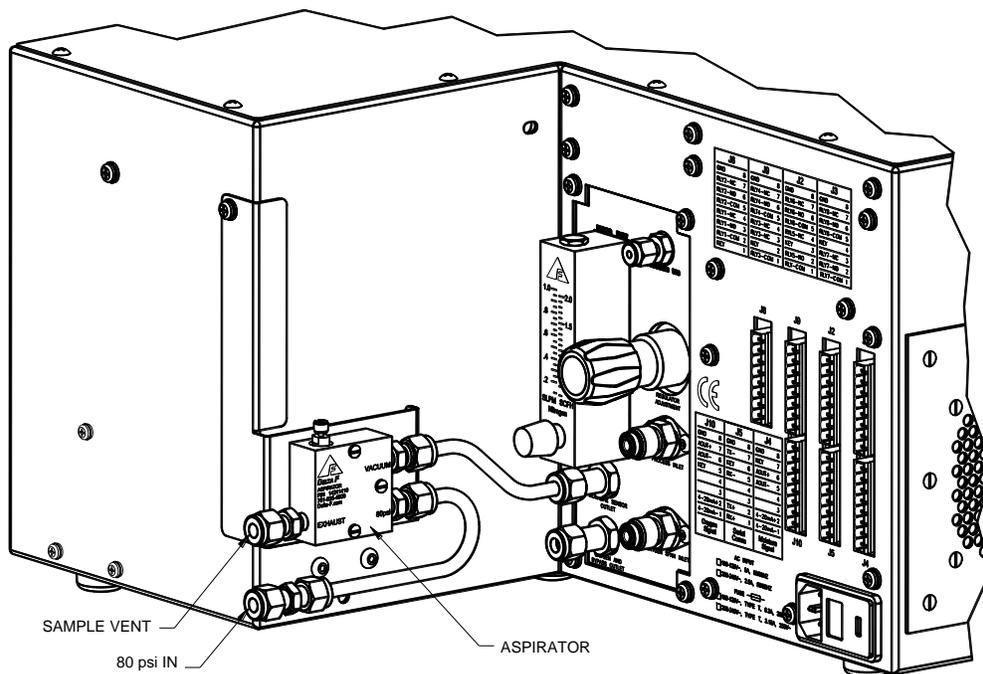
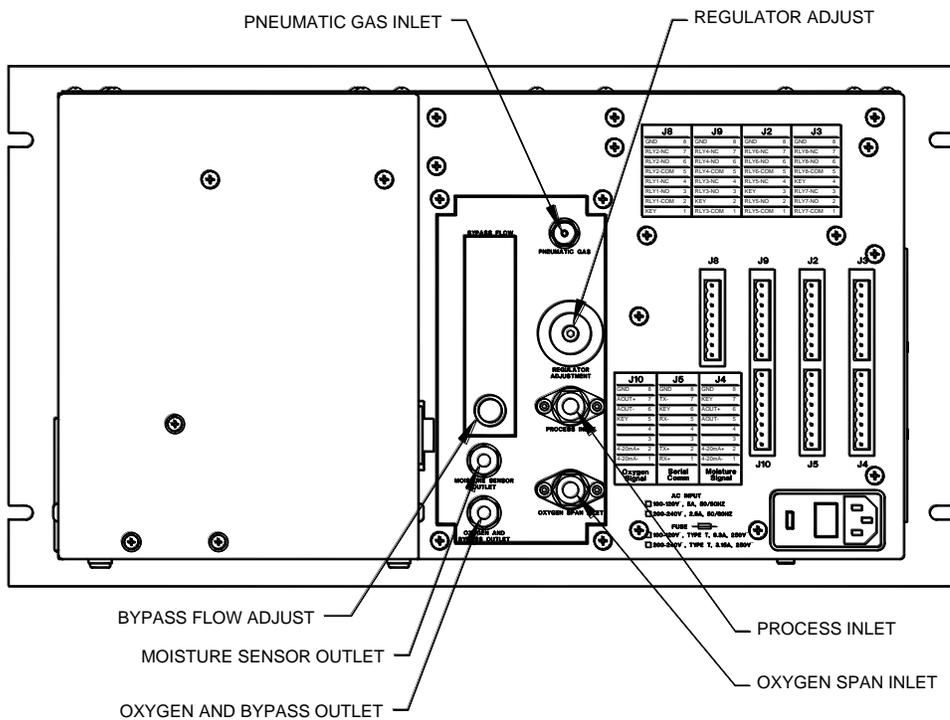

Figure 3: Aspirator Installation
Figure 4: Rear Panel Gas Connections and Controls
The standard vacuum source provided with the DF-760 analyzer is a factory installed aspirator as shown in Figure 3.
The pneumatic gas connection is a 1/8 inch compression fitting as shown in Figure 4 and requires 70 – 100 psig (4.8 - 6.9 barg) air or N₂ pressure. For ease of installation, the pneumatic feed line can be connected directly to the 1/4 inch aspirator source by way of a 1/8 inch adapter.
Sample gas is connected to the analyzer via a 1/4 inch male swivel VCR fitting labeled Process Inlet at the rear of the instrument as shown in Figure 4. Sample pressure of 30 – 150 psig is required and is regulated internally.
The sample gas outlet connection is a 1/4 inch compression fitting labeled Moisture Sensor Outlet as shown in Figure 4. A 1/4 inch stainless tube is connected from the analyzer sample outlet to the Aspirator assembly. See Figure 3. The Oxygen and bypass outlet are vented separately.
4. Open the flowmeter bypass valve on the rear of the analyzer and flow in the bypass loop will be indicated on the flowmeter. Adjust the flowmeter bypass valve to 0.5 slpm. See Figure 4.